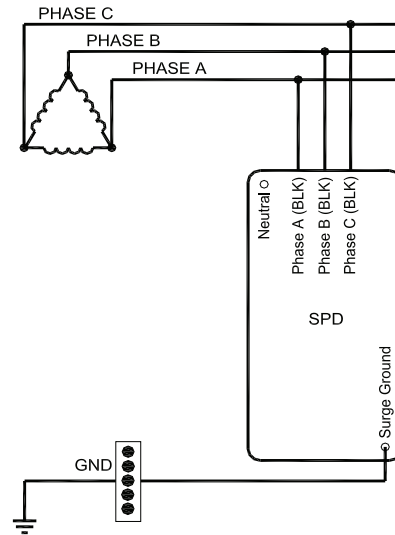

Figure 6. 3-phase, delta units
5. Select the correct wiring diagram for the SPD you are installing. You must refer to this diagram while wiring the SPD. See Figures 6 and 7.